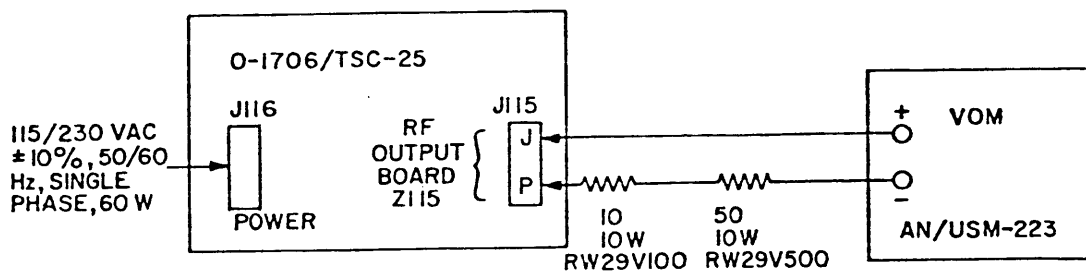

Figure 5-2. MONITOR meter, alignment setup.
(1) Power Supply Boards Z303 and Z304. (See figs. 5-2, FO-18 and FO-17.) Align the power supply boards as follows:
(s) Connect VOM as indicated in figure 5-2.